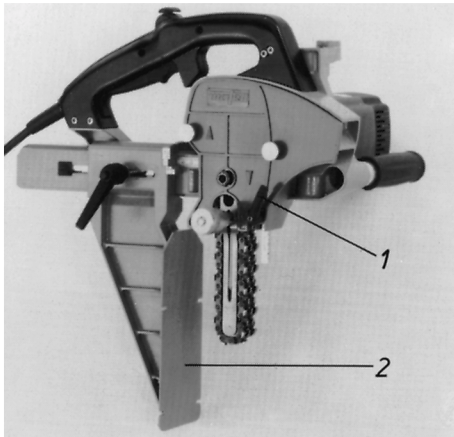

Fig. 1
- Loosen clamping lever 1 (Fig. 1) and retract the depth stop pin of the chain mortising machine LS 103 Ec completely.